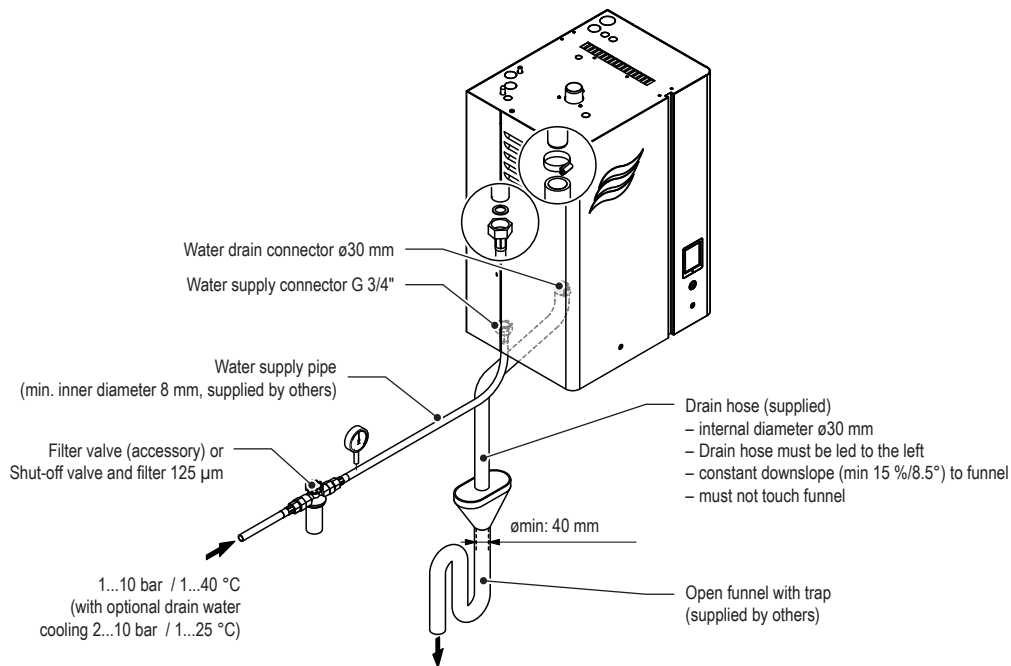

Fig. 19: Overview water installation for single units Small ("S") and Medium ("M")
- Always lead the supplied drain hose from the connector to the left down to the funnel (see Fig. 19).